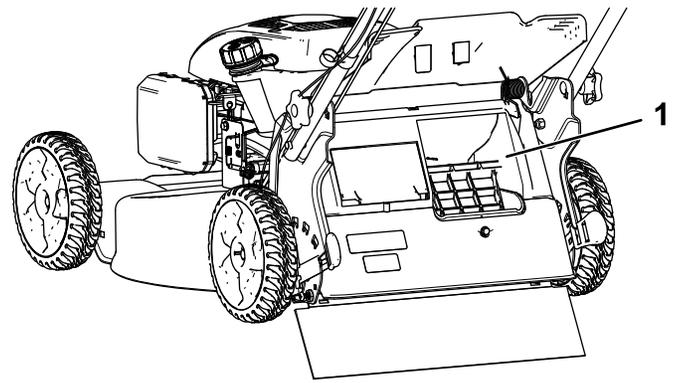

Figure 25
**Important:** For proper operation, shut off the engine, wait for all moving parts to stop, and then remove any grass clippings and debris from the bag-on-demand door and the surrounding opening (Figure 25) before you move the bag-on-demand lever from 1 position to another.